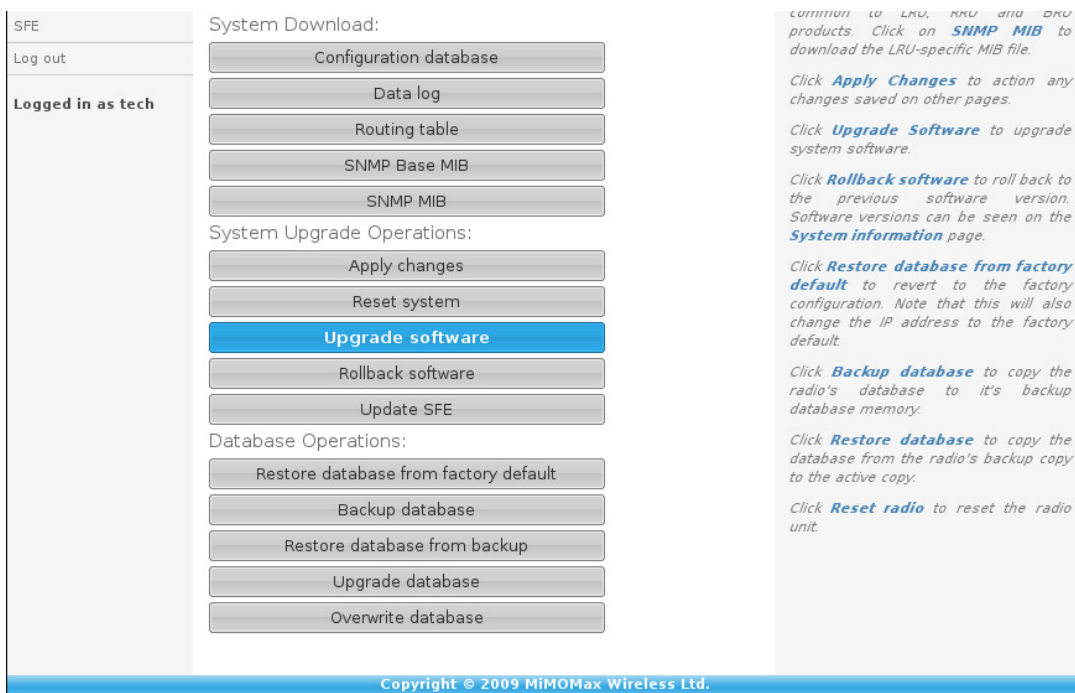

Figure 8: Control Panel
- The user will need to scroll down to the "System Upgrade Operations" section of the Control Panel page and click on the "Upgrade Software" button (see Figure 8).